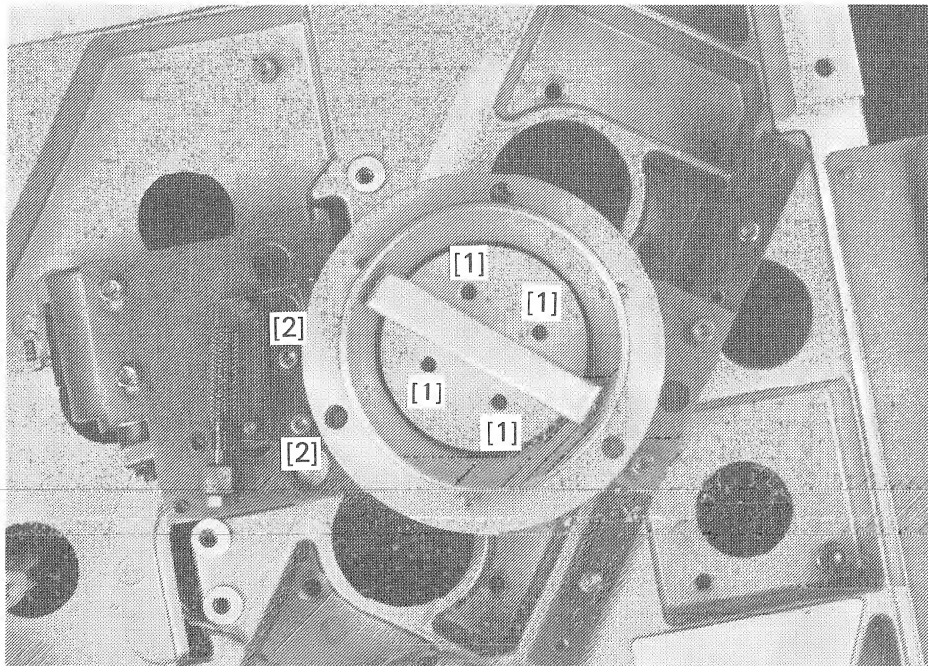

Fig. 3.1.25
- Unfasten four allen screws no. 3 [1] through the holes next to the rotary knob. Carefully lift off the complete adapter (see Fig. 3.1.25).